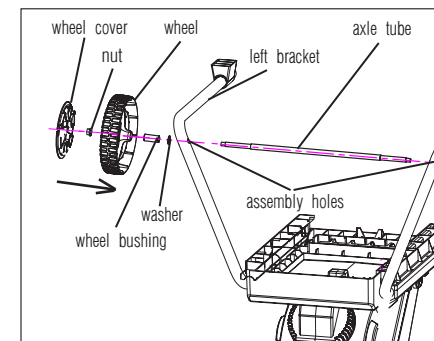

Fig. 2
3. Position the washers and wheel bushings on each end of the axle tube. Then assemble the wheels onto each end of the axle end. Use the self-locking nuts on each end of the axle and tighten both the self-locking nuts using the wrench supplied (Fig. 2).